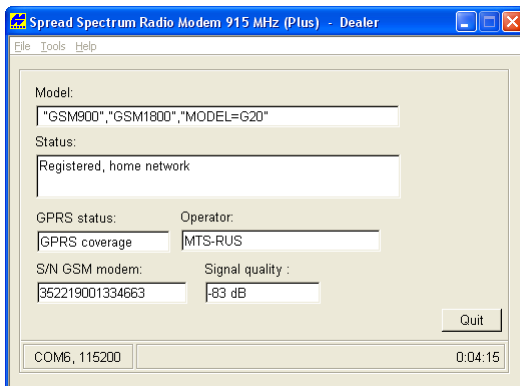

Figure 3-6. View GSM Information
4. To view GSM modem information, click **GSM info** (Figure 3-6). Click **Quit** to return to the *GSM* tab.